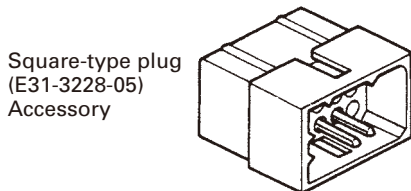

Fig. 1-1
1. Remove the connector with jumper from the external speaker connector on the rear panel of the radio. (Fig. 1-1)